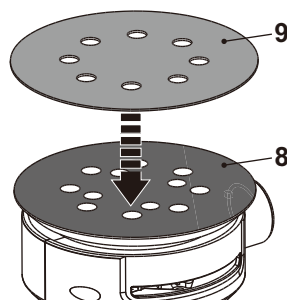

Fig. 1
2. Align the hole pattern of the new sanding paper (9) with the one in the base plate (8) to ensure efficient dust extraction if available. (Fig.1)